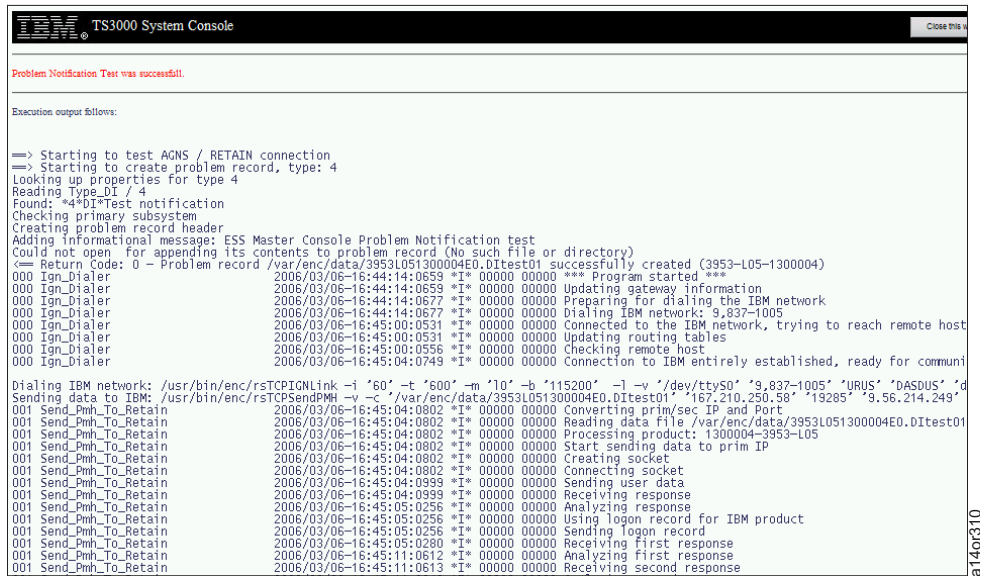

Figure 223. Test RETAIN Connection Results Screen - As a Service Procedure
2. Select the test you want to run from the list on this menu. You see Figure 223 on page 176.